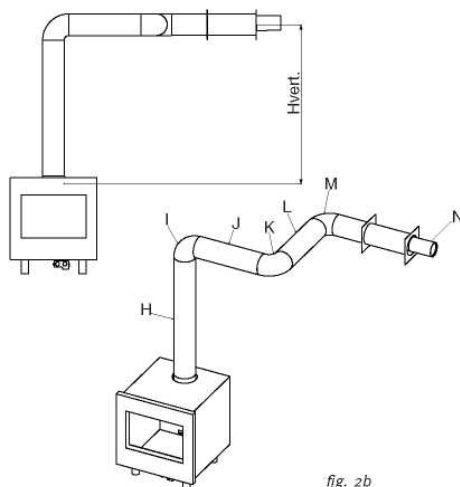

fig. 2b
*Calculation horizontal extension fig. 2b:*